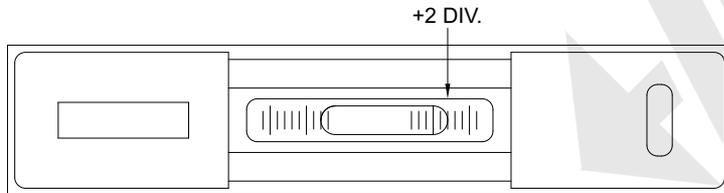

Fig.1
2. No need to set zero before use. Slide (not put) the level on the surface of measured workpiece. Read by bubble's position. Take below fig. 1 for example, reading '+2 DIV.' means right side is high (bubble moves to high side)